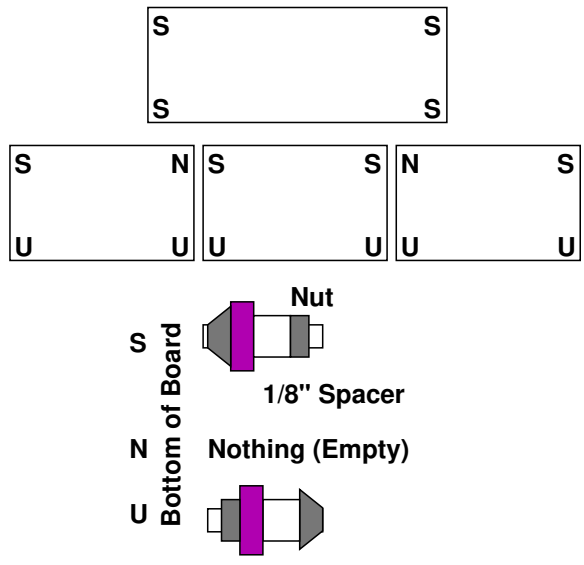

Figure 3: Diagram of screw/nut placement.
- ii. Figures 3 and 4 have possibly helpful diagrams.